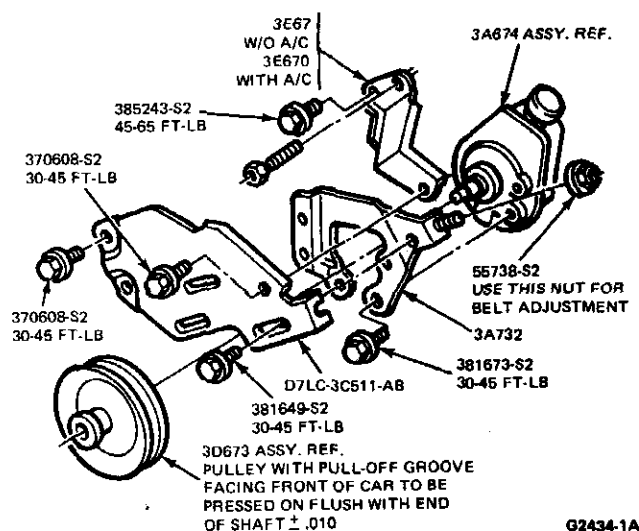

FIG. 2 Power Steering Pump Installation — Lincoln Continental, Continental Mark V, Ford and Mercury with 5.8L/6.6L (351/400 CID) V-8 Engines
2. Loosen the three (3) bolts covering the slotted holes in the engine mounting bracket (Figs. 2 and 3).
3. Increase belt tension by rotating the adjusting nut (Figs. 2 and 3) in a clockwise direction.
1. Disconnect the pressure and return lines from the pump and plug them to prevent loss of fluid or entrance of dirt into the system (Figs. 2 and 3).